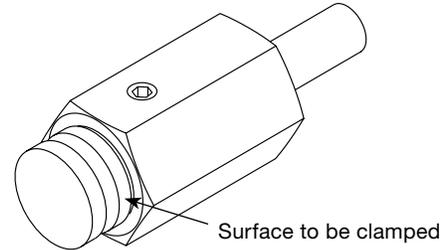
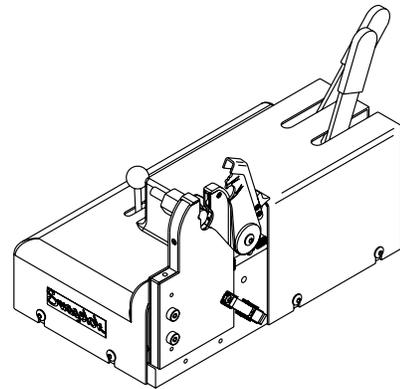

Figure 23 Surface to be Clamped
Figure 24 Centering Gauge Clamped into Position
2. Clamp the centering gauge around the circular surface shown in Figure 23, using the left movable clamp. See Figure 24.